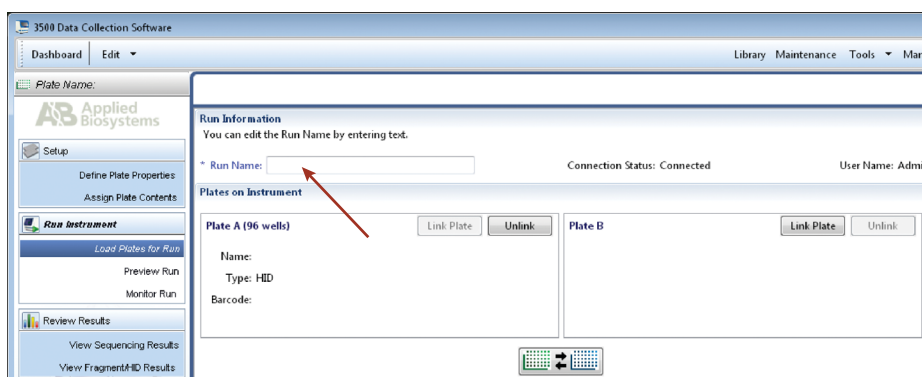

Figure 11. Assigning a run name.
13. In the Run Information window (Figure 11), assign a Run Name. Select “Start Run” (not shown).